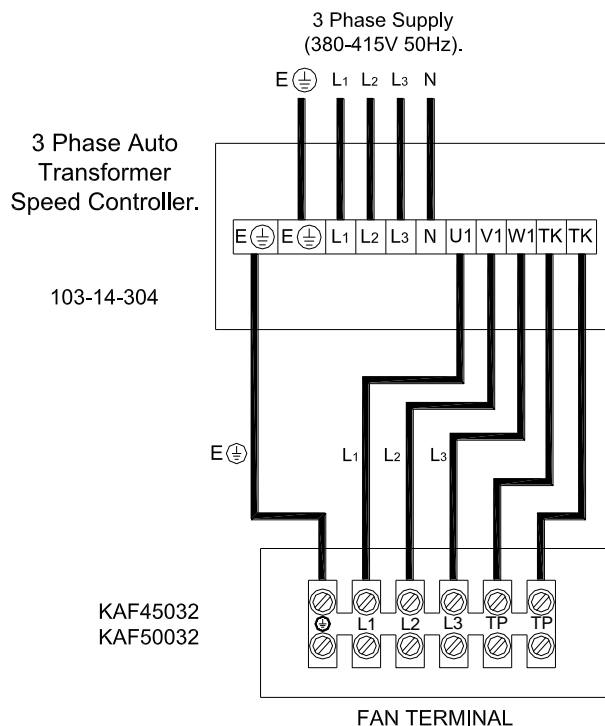

Fig.6
- Reconnect the power supply and ensure the Cased Kitchen Axial Fan is operating correctly and the rotation of the impeller match the rotation arrows on the outer casing (Fig.6).